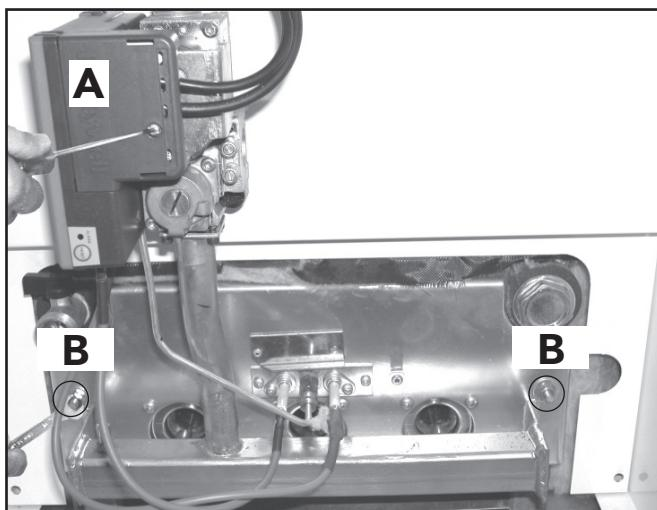

Fig. 8
- Remove the gas valve electronic controller **A** (fig. 8);
- Unscrew the two nuts **B** attaching the combustion chamber door to the cast iron elements of the boiler (fig. 8)